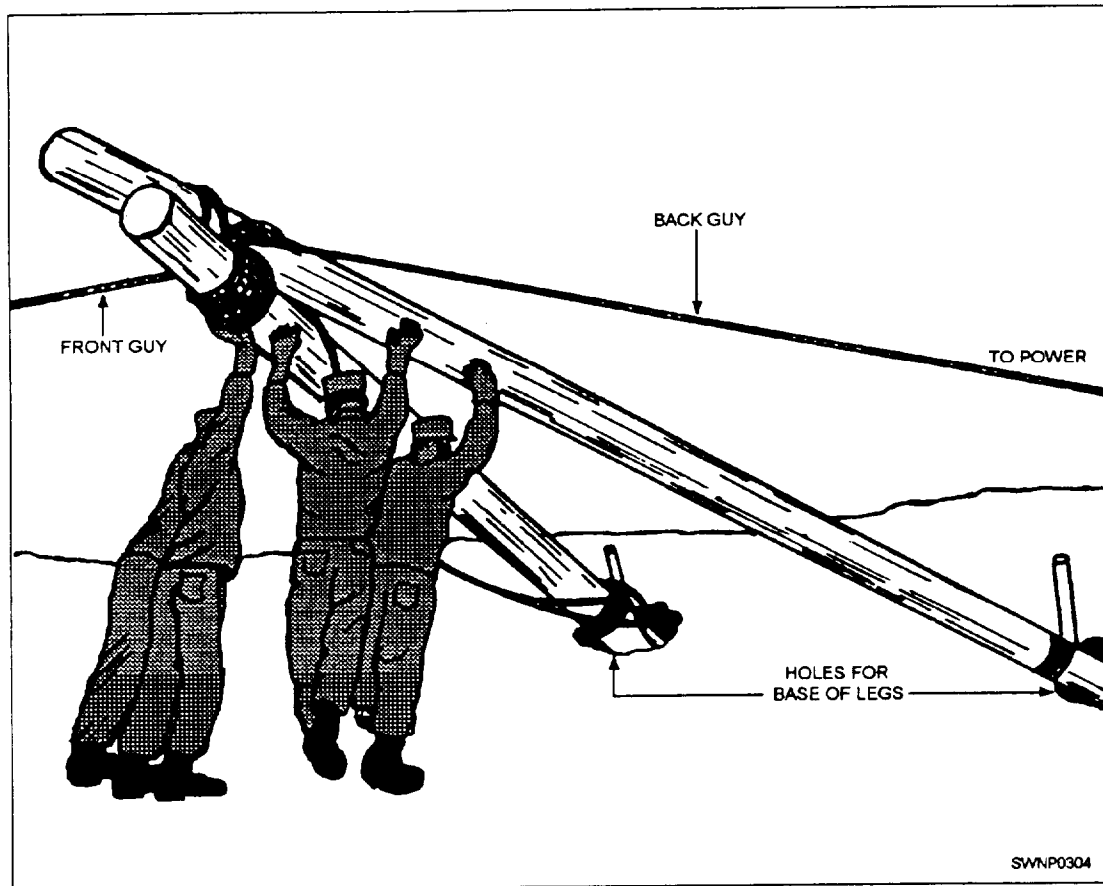

Figure 6-57.—Erecting shears
c. Several men (depending on the size of the shears) should lift the top end of the shear legs and “walk” them up by hand until the tackle on the rear guy line can take affect. After this, the shear legs can be raised into final position by hauling in on the tackle. Secure the front guy line to its anchorage before raising the shear legs and keep a slight tension on this line to control movement. (See fig. 6-57.)